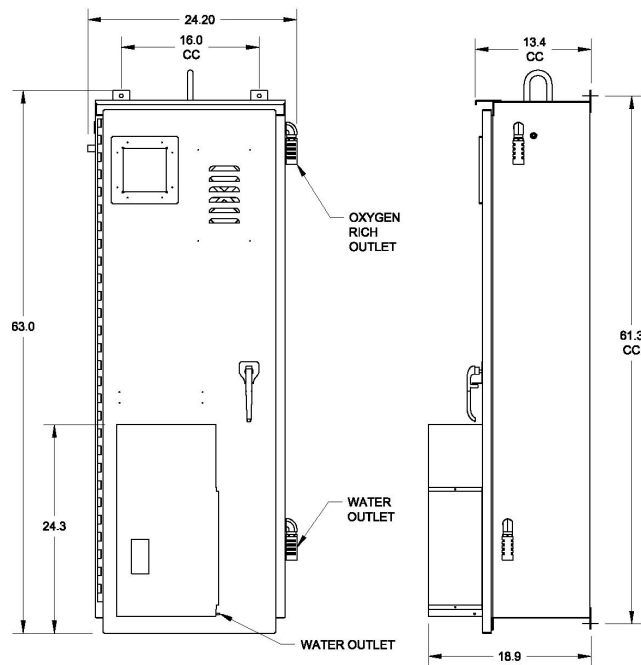

Figure 3 – Generator mounting dimensions
1. Measure and mark the mounting holes or studs as shown by the center-to-center distances on figure 3. **IMPORTANT:** Make sure the bolt holes are level and high enough to support cabinet above grade.